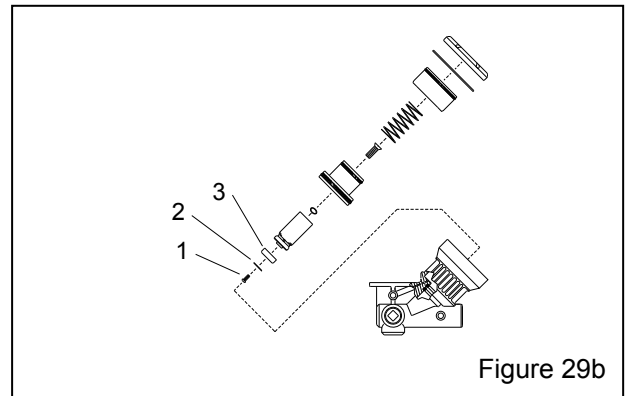

Figure 29b
- ** Service kit, Millennium plunger tip (Fig. 29b).. 22898